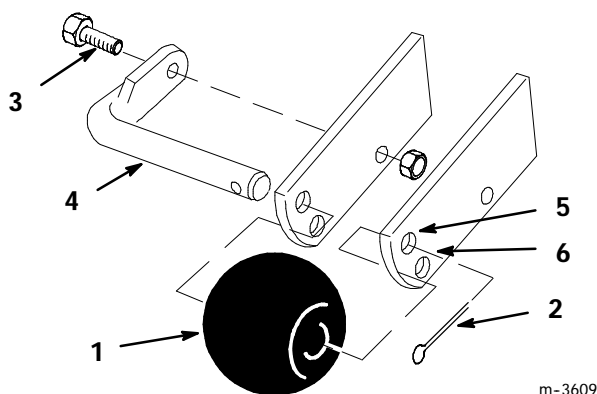

Figure 27
2. Remove the cotter pin, bolt and shaft to change hole location (Fig. 27).
3. Select the hole position for the height-of-cut to be used and insert the rod (Fig. 27).